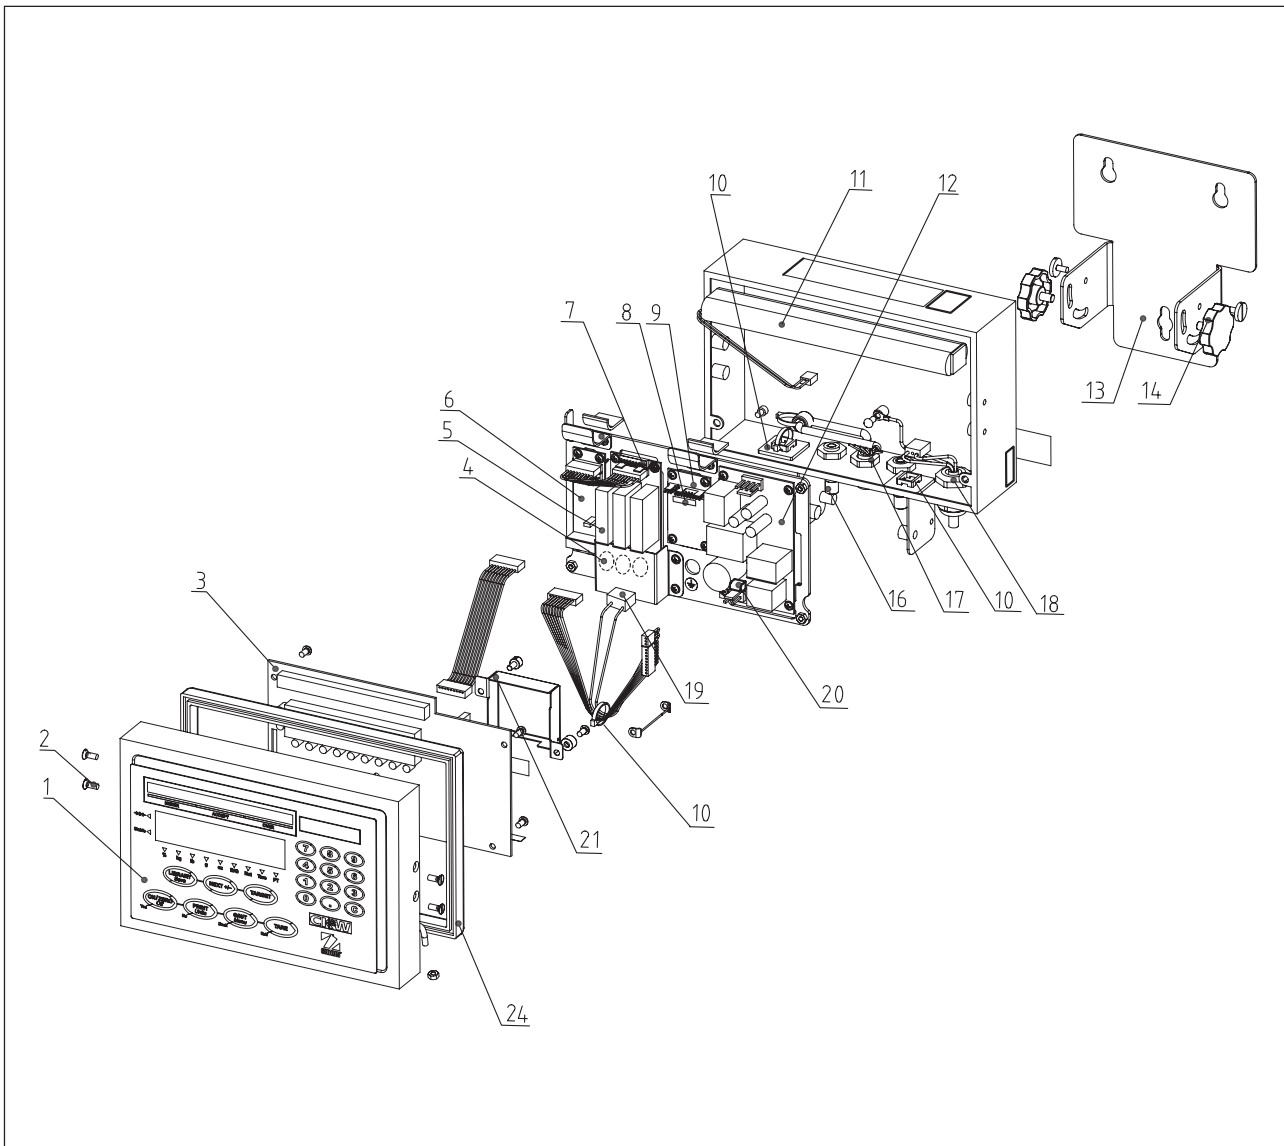

Figure 5-1. Exploded View of CKW-55 Indicator.
5. Position the new battery with the wire leads to the left and facing forward. Important, make sure there is a foam cushion at each end of the battery. See Figure 5-1.